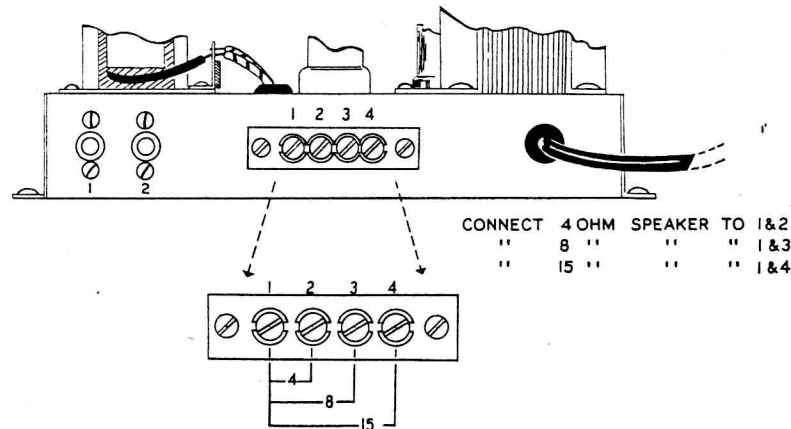

FIGURE 10
2. Connect a speaker (or a 5 watt resistor of about the same resistance of the speaker to be used) to the output terminals on the rear chassis apron. If the speaker is 4 ohms nominal impedance, use terminals L1 and L2. If an 8 ohm speaker is to be used, connect it to terminals L1 and L3. If a 15 ohm speaker is to be used, connect it to terminals L1 and L4. (See Figure 10 for further information.)
NEVER OPERATE THE AMPLIFIER WITHOUT A SPEAKER CONNECTED. To do so may cause serious damage to the output transformer. Determine the nominal impedance of the speaker system to be used. This information is usually stamped on the name plate of the speaker itself, or it may be obtained from catalog descriptions or directly from the manufacturer. The A-7B and A-7C amplifiers are suitable for use with speakers having impedances of 4, 8, or 15 ohms. Connect the speaker to the output terminal strip as shown in Figure 10 below.